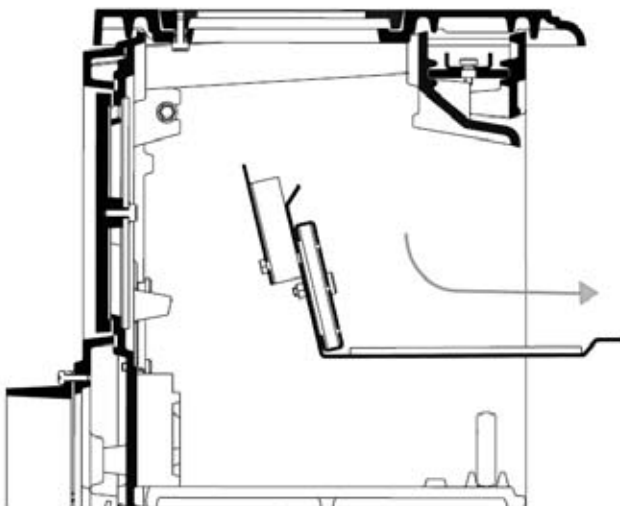

Figure 5 - Removing the flue baffle
- Refit the flue baffle (see figure 5 and 6).
2.11. Removing and replacing the flue baffle (figure 5 et 6)
(figure 5 et 6)